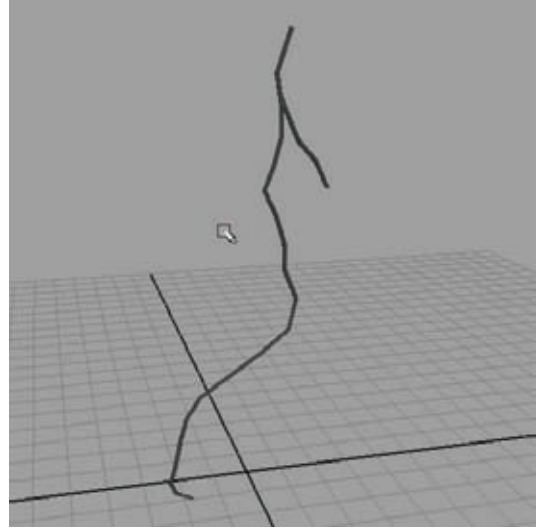

Figure 2.13
11. Click the Extrude button. A polygon tube should be created, running along the pathway of the curve you had drawn. Repeat the extrude step for the smaller vine's curve, creating a tube for it as well. You should have a result similar to Figure 2.13.